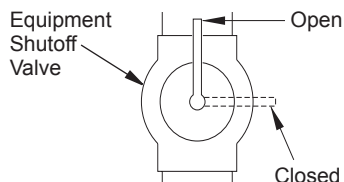

Figure 14 - Equipment Shutoff Valve
1. Close equipment shutoff valve (see Figure 14).
- Close equipment shutoff valve (see Figure 14, page 15).